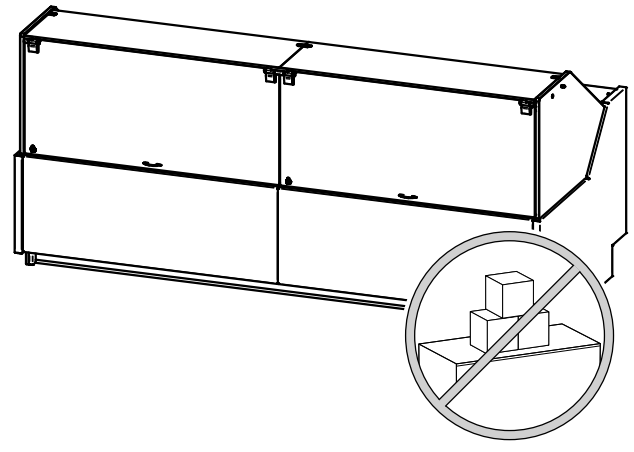

Fig. 26
- The superstructure of the cabinet is not loaded with weights that exceed the indicated limits ("Fig. 26").